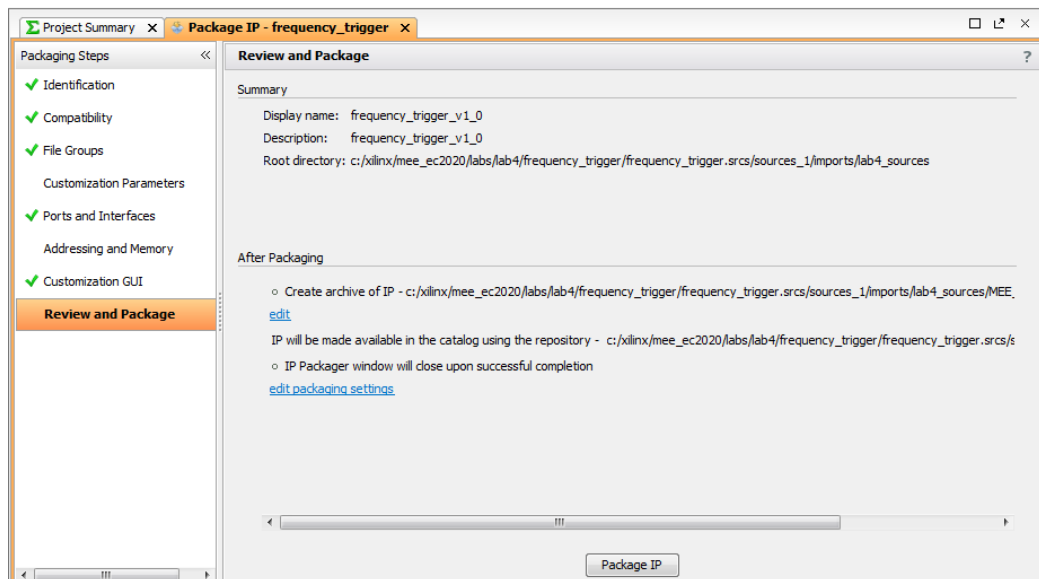

Figure 11. Review and Package window
- 2-2-8.** After we finished with the IP **Identification**, select the **Review and Package** option in the **Package IP** window and check the specified project directory folder to make sure that the new archive file was added, see Figure 11.
The user can change the default name and location of the archive by selecting the edit link next to the Create archive of IP name in the After Packaging selection, see Figure 11.